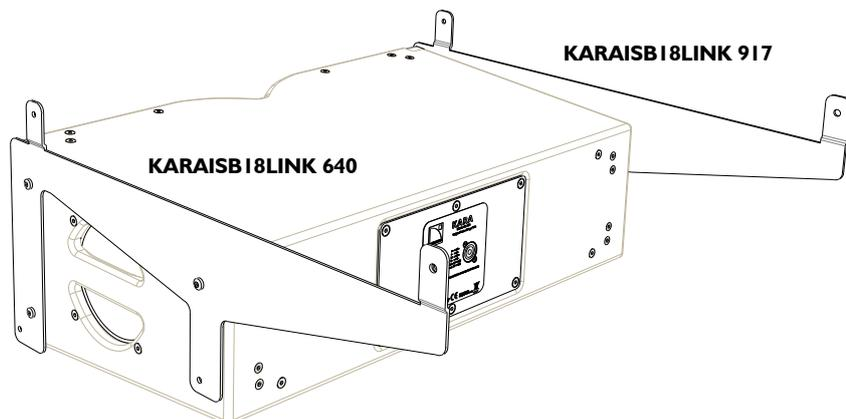

**Figure 3: M-BUMPi rigging structure**
**Note 1:** In flown configuration, the M-BUMPi can be assembled according to eight **rigging options** [9.1.1]. In particular, rigging option 0 allows assembling two M-BUMPi. In addition, a bar can be used for aesthetic purposes (see the right box in Figure 3).